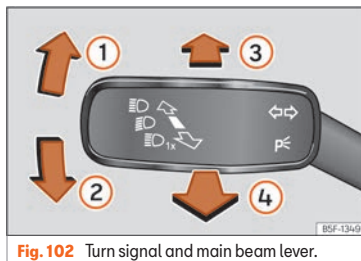

Fig. 102 Turn signal and main beam lever.
- From the base position, press the turn signal and main beam headlights lever forwards »» Fig. 102 ③ When the lamp Ⓐ is displayed on the instrument panel display, the main beam assist is switched on.
- **OR:** while the main beam is on, pull the turn signal light and main beam headlights lever forwards »» Fig. 102 ④.